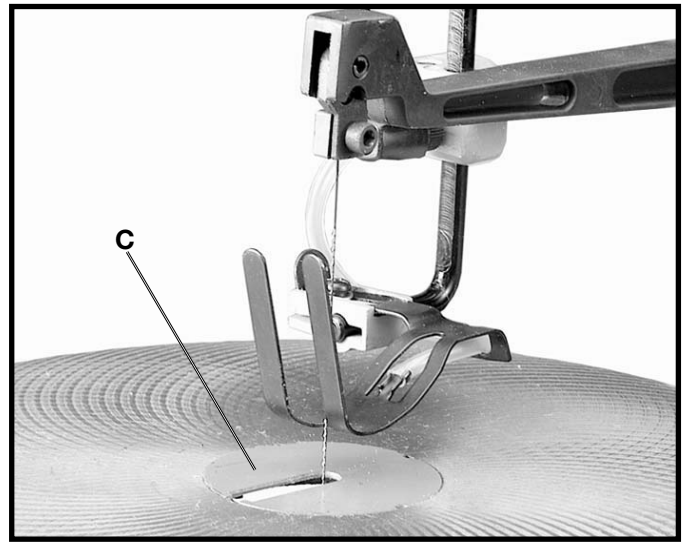

Fig. 9
7. Assemble table insert (C) Fig. 9, in table as shown. **NOTE:** Opening in table insert (C) should be positioned toward the front for normal work with the table in the level position and should be positioned toward the right when tilting the table.